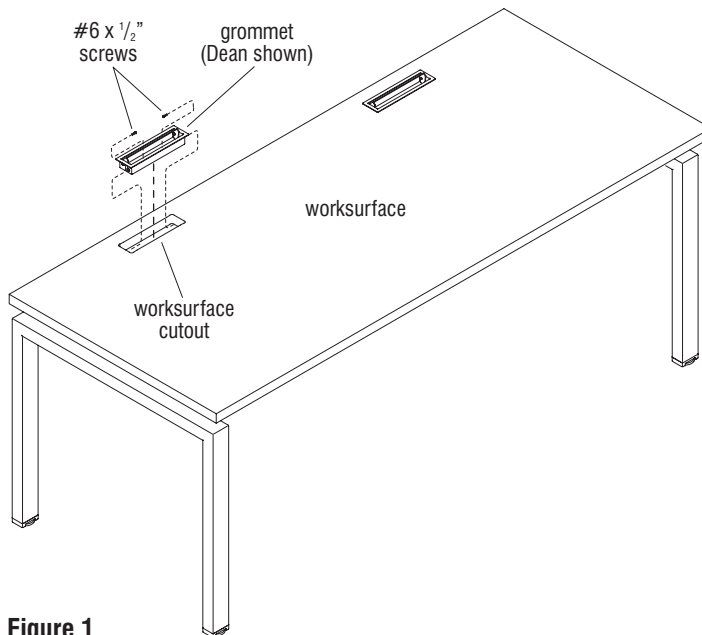

Figure 1
2. Push the grommets into each cutout, tapping lightly with a rubber mallet if required. Use caution to avoid scratching the grommet (Figure 1 & Details A or B).